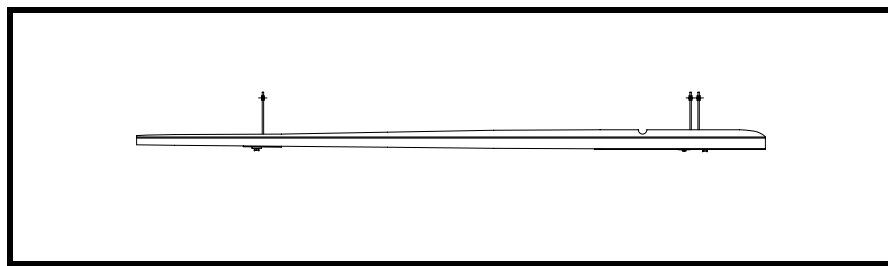

Figure 1
- ❑ Install the triangular strips on the aft face of the fin spar. See Figure 1. Scuff-sand the plywood before gluing.